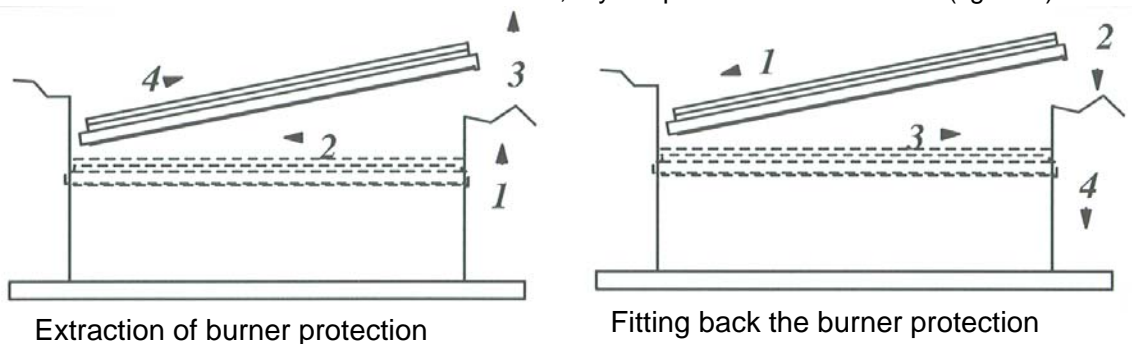

Fig. 8
- Remove the burner protection carefully and wash separately; control if all the burner holes are in order or clean with a hard brush, dry the protection and re-install (figure 8)